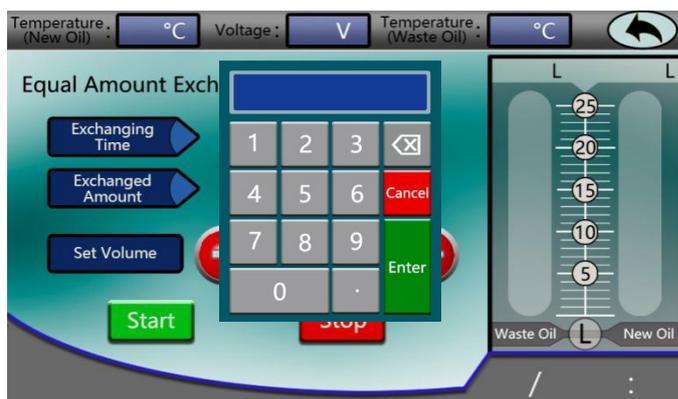

Fig.23
- 6.3 Click "+" or "-" to set the exchange amount. Or tap the edit box to pop up the number keyboard, and enter the number (Fig.23). Then click 'Start' to run and start the engine at the same time.